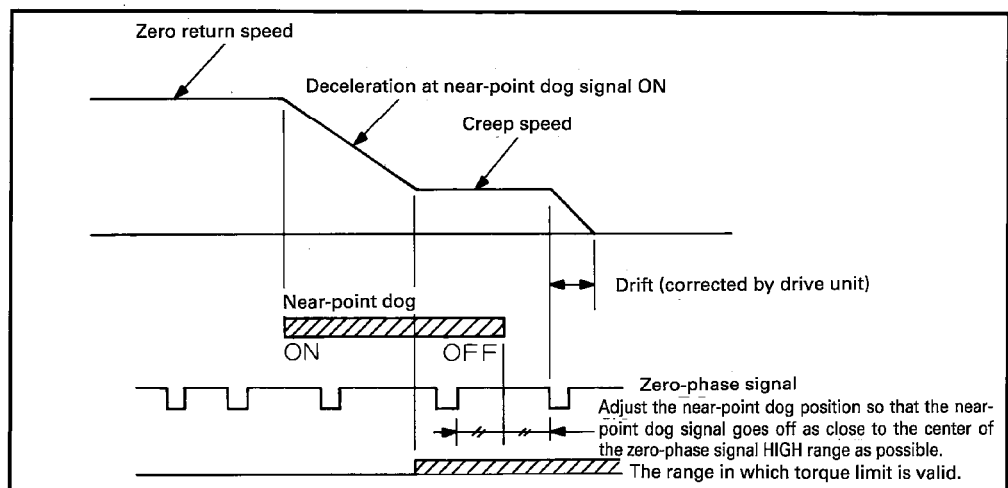

Fig. 2.14 Zero Return Speed and Creep Speed
(3) Zero return address
(4) Zero return speed
- Sets the zero return speed. (Refer to Fig. 2.14)
(5) Creep speed
- The axis travel speed decelerated from the zero return speed at turning on of the near-point dog signal during zero return operation is called creep speed (See Fig. 2.14.).